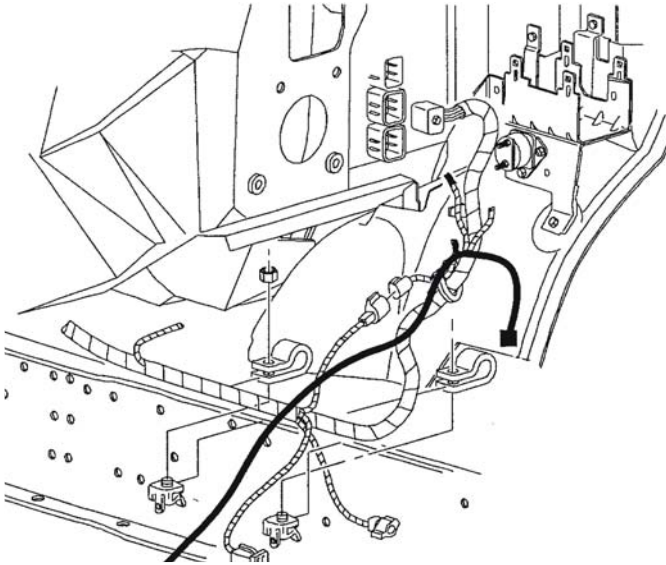

Figure 4.8
- Locate the connectors near the front dash panel between the engine and the driver's side wheel well (Figure 4.8). There will be one connector on trucks with the 2000/2400 transmission and two connectors on trucks with WTEC MD transmission.